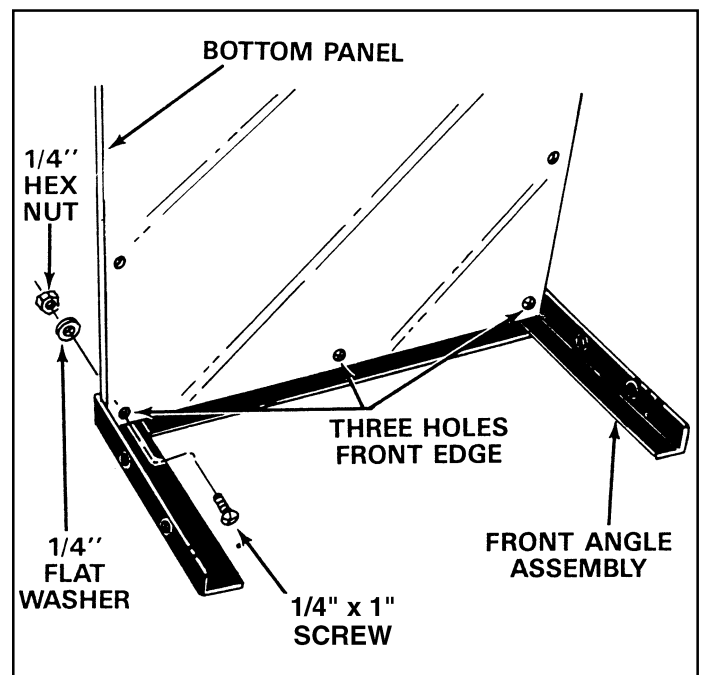

FIGURE 2
1. Lay the front angle assembly down (flat) on floor and stand the bottom panel in position as shown in figure 2.
The bottom panel has one galvanized edge; this is the rear. The front edge has three holes. See figure 2.
2. Line up three holes in bottom panel with holes in front angle assembly. Start three 1/4" x 1" screws through bottom panel, then through angle. Secure screws with flat washers and hex nuts. **Tighten securely.** See figure 2.